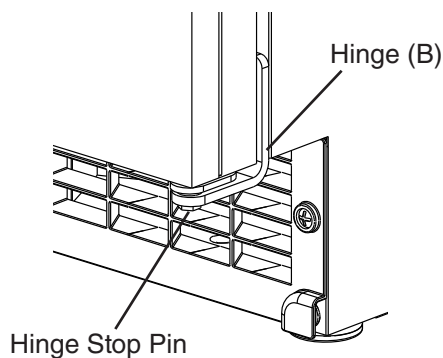

Fig. 28
- 9) Attach the door to hinge (A), then continue to maintain a hold on the door. Screw the hinge stop pin into hinge (B) until it is tight. See Fig. 28.